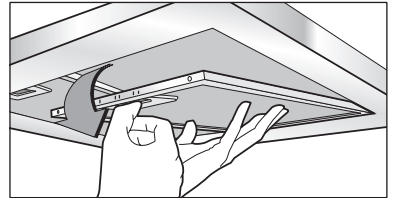

Fig.8
• The minimum distance between the support surfaces of the cooking pots on the cooker top and the lowest part of the cooker hood must be at least **65 cm**. If a connection tube composed of two parts is used, the upper part must be placed outside the lower part. Do not connect the cooker hood exhaust to the same conductor used to circulate hot air or for evacuating fumes from other appliances generated by other than an electrical source. Before proceeding with the assembly operations, remove the anti-grease filter(s) (Fig. 8) so that the unit is easier to handle.
• **METALLIC ANTI-GREASE FILTERS** (Fig. 8):